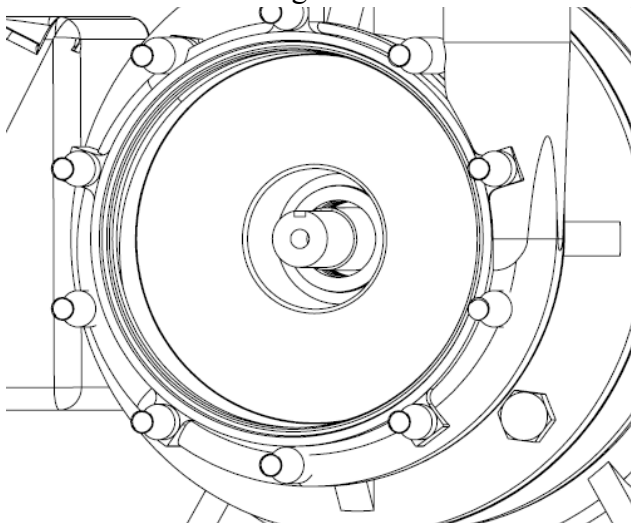

Figure 7
9. The stationary half of the seal will stick inside the casing. To remove this half of the seal use an o-ring pick. Carefully pull on the back of the seal alternating sides to avoid cocking the seal the casing. Figure 7.